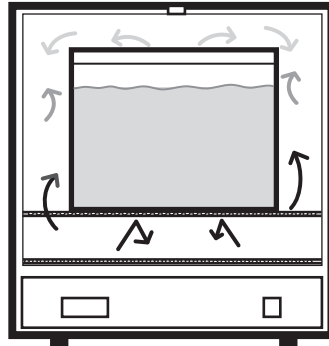

FIG. 4
- Avoid extremely large (in quantity or size), or high-density loads ( FIG. 4 ). This will show by non-uniform processing and long or impossible "heat-through" times. To help determine a large load's suitability, use the set-point recovery time (the time it takes for the temperature to recover to the original set temperature once load is placed), as a guide.